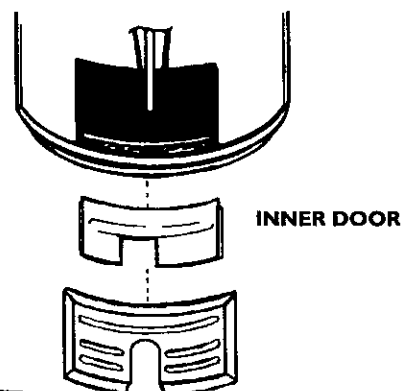

Figure 9
10. Replace (or close) inner door. Replace outer door if door does not cover gas control on/off knob or temperature adjustment knob. (Figure 9, page 17)